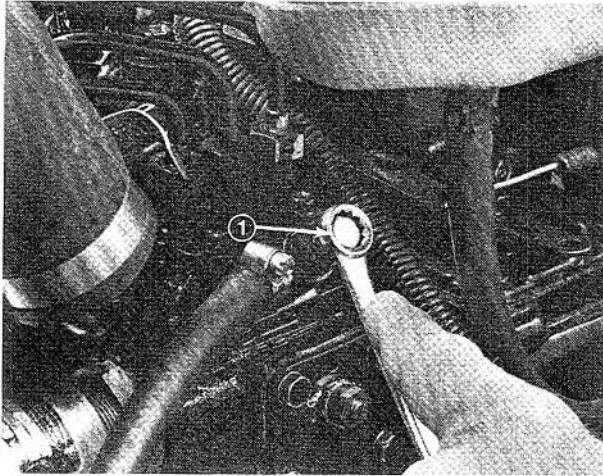

Figure 21
4. Open the air bleed screw on the fuel injection pump (Fig. 21) with a 12 mm wrench.